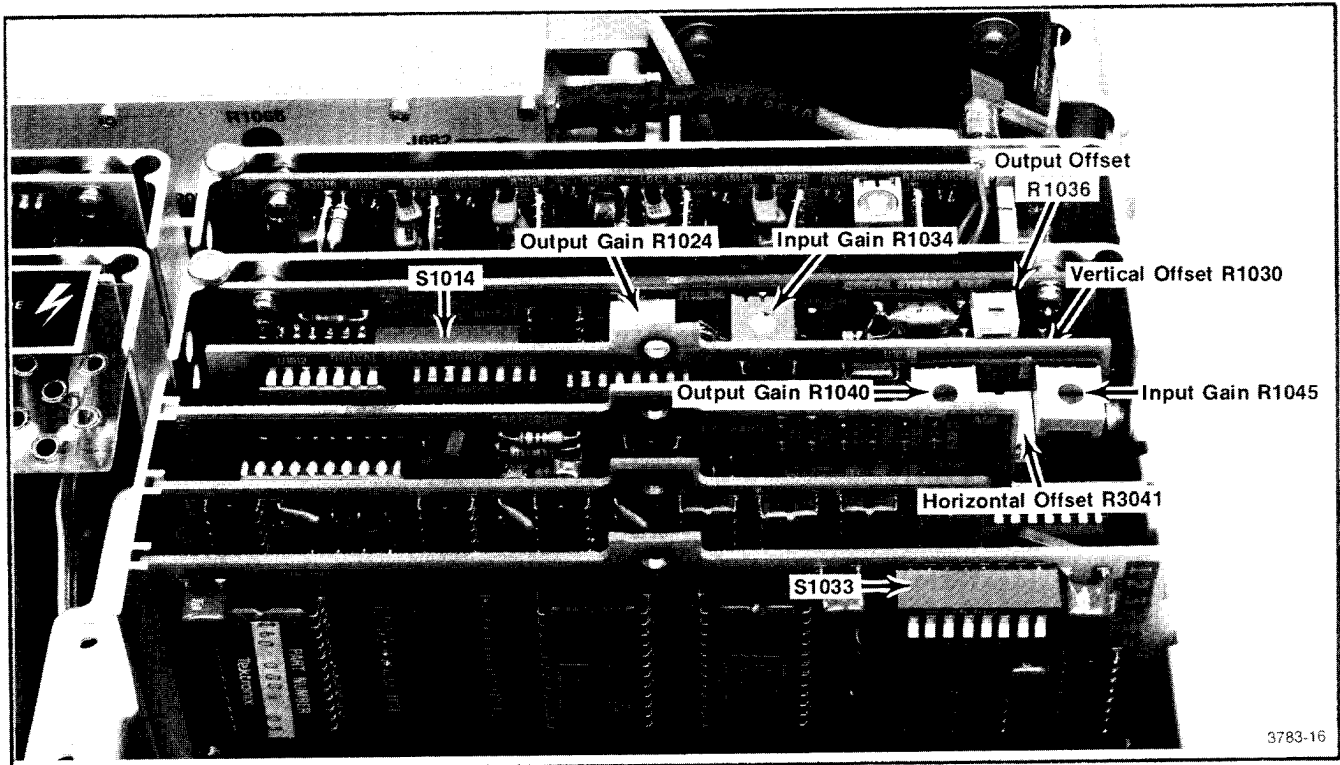

Fig. 3-47. Digital Storage adjustment locations (SN B043114 & below).
1) adjust Horizontal Offset, R3041 (Fig. 3-47), so the left edge of the cursor is at the left edge of the crt (about 0.25 division over-span from the left graticule line);
2) adjust Output Gain, R1040 (Fig. 3-47), so the right edge of the cursor is at the right edge of the crt;
3) alternately switch the VIEW A (Digital Storage) on and off while adjusting Input Gain, R1045 (Fig. 3-47), so the storage signal at the right edge tracks with the non-store signal.
1) output Gain R1024 and Output Offset R1036 (Fig. 3-47) are adjusted at the factory in the 492P only (the alternate procedure follows). These adjustments should not be changed; however, if they are disturbed, center these adjustments and center Input Gain R1034 before proceeding;
3) using a signal near the bottom of the display, adjust Vertical Offset R1030 (Fig. 3-47), so the stored display is the same amplitude as the non-store signal;
5) adjust Input Gain R1034 (Fig. 3-47), so the stored display of the high amplitude signal is the same as the non-store display;
Adjust the following (Fig. 3-47) for SN B043114 and below to match the step waveform to the graticule: